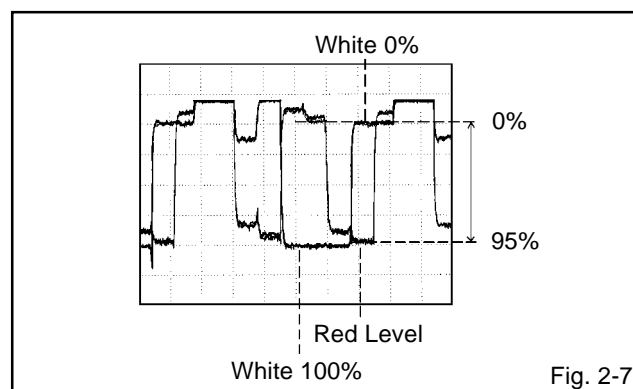

Fig. 2-7
7. Press the PLAY or STOP button on the remote control until the red color level is adjusted to 95% of the white level. (Refer to **Fig. 2-7**)